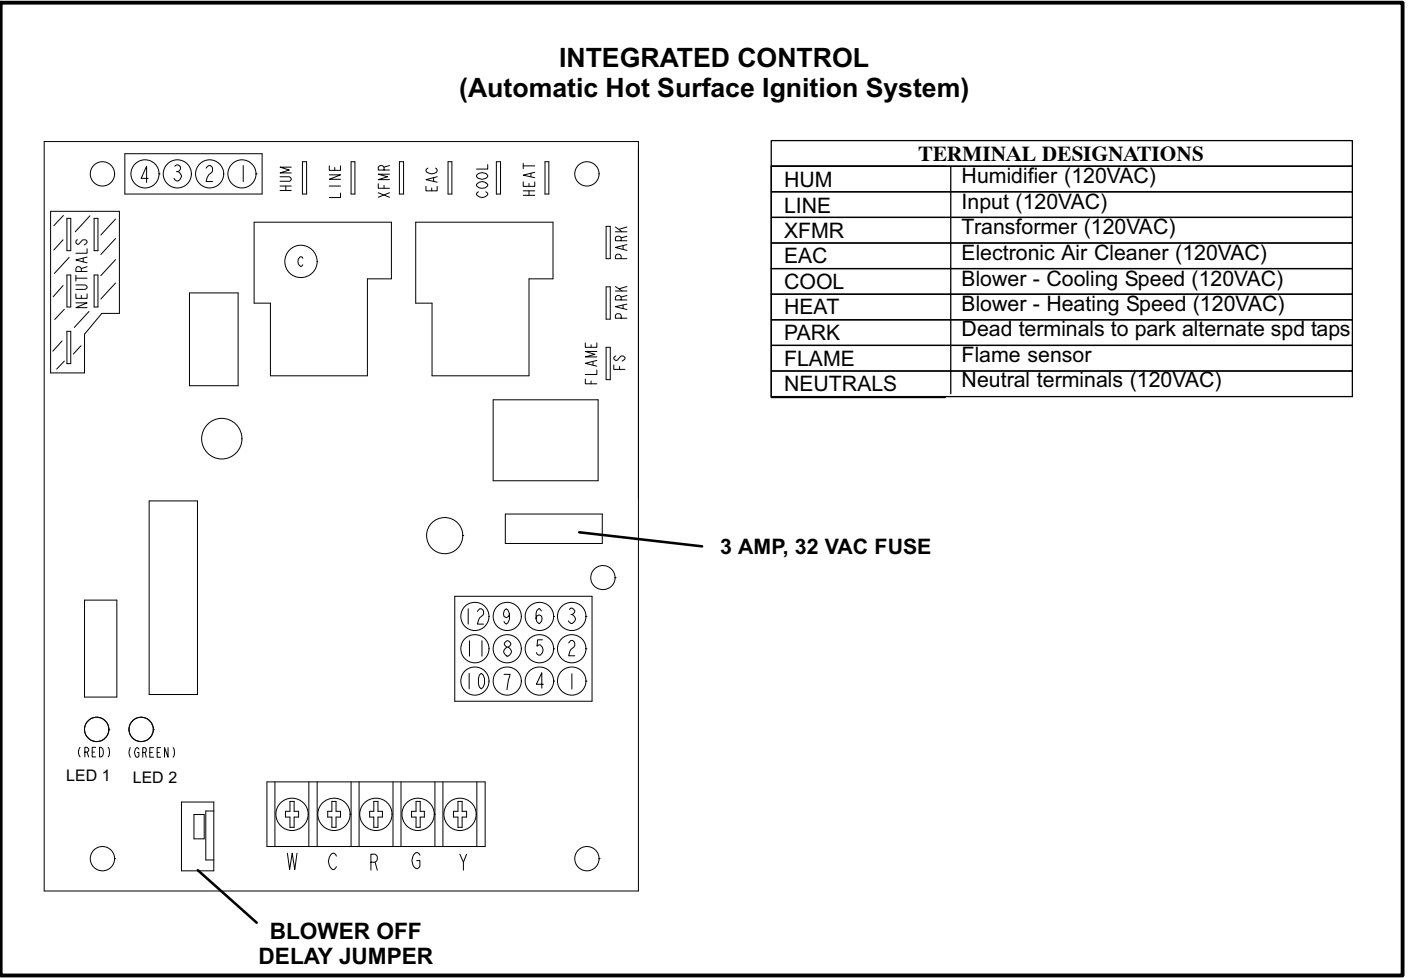

FIGURE 4
The ignition control system consists of an integrated control (figure 4) ignitor (figure 10) and flame sensor (figure 10). The integrated control and ignitor work in combination to ensure furnace ignition and ignitor durability. The integrated control, controls all major furnace operations. The integrated control also features two LED lights (DS1 red and DS2 green) for troubleshooting and two accessory terminals rated at (1) one amp. The integrated control also features a (3) amp fuse for overcurrent protection. Tables 1 and 2 show jack plug terminal designations. See table 3 for troubleshooting diagnostic codes. The mini-nitride ignitor is made from a non-porous, high strength proprietary ceramic material that provides long life and trouble free maintenance. The integrated control continuously monitors line voltage and maintains the ignitor power at a consistent level to provide proper lighting and maximum ignitor life.